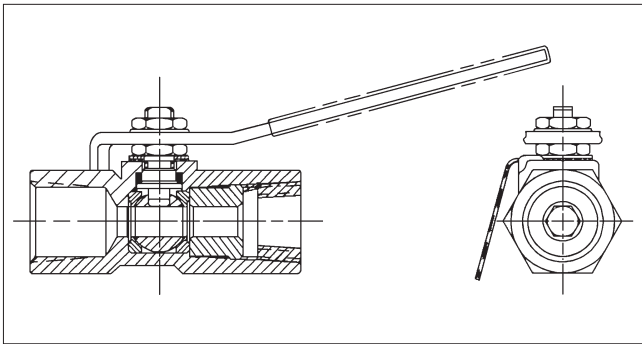

Figure 1.
3. The Series 3000 is an end entry design with an internal insert as shown in (Figure 1). The insert contains a hex or slot drive which can be identified by looking into the end of the valve before installation. Although the Series 3000 valve may be disassembled it is not considered repairable. If valves with Monel® or Hastelloy C® trim require repair, contact the factory.